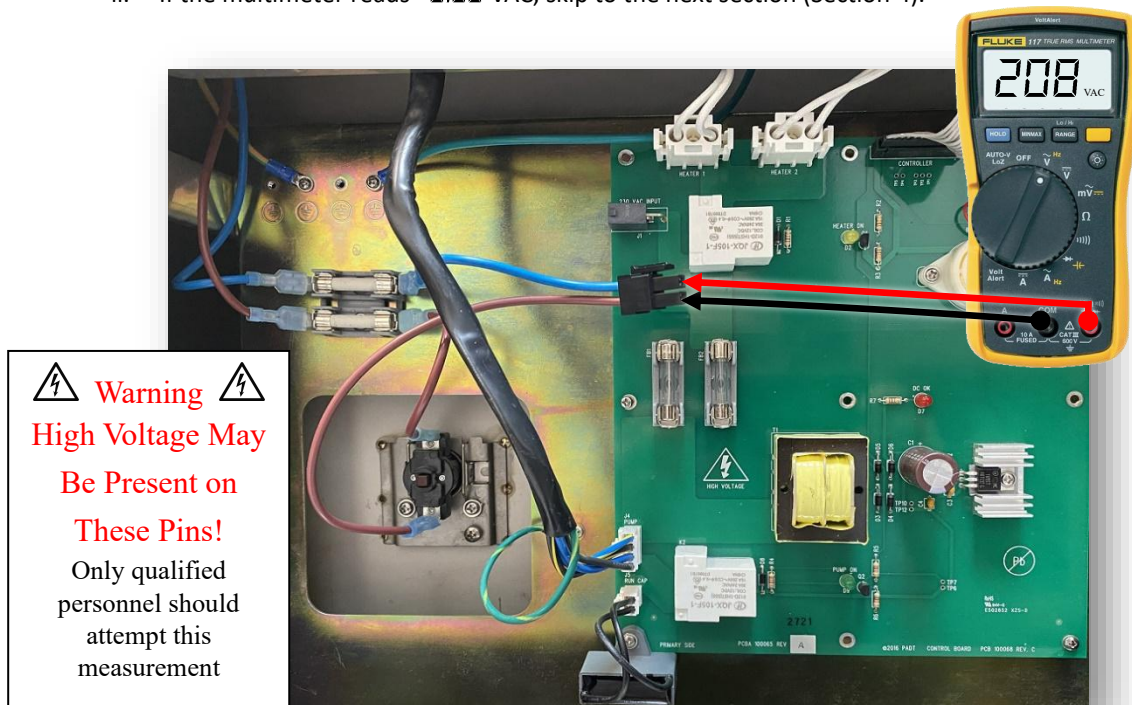

Figure 47 – J1 PCB Input Power
- a. Unplug power from the SCA and disconnect the J1 connector from the PCB (**See Figure 47**).
- i. If the multimeter reads ~ 208 VAC (NA) or ~ 230 VAC (EU), continue to the next step (Step d).